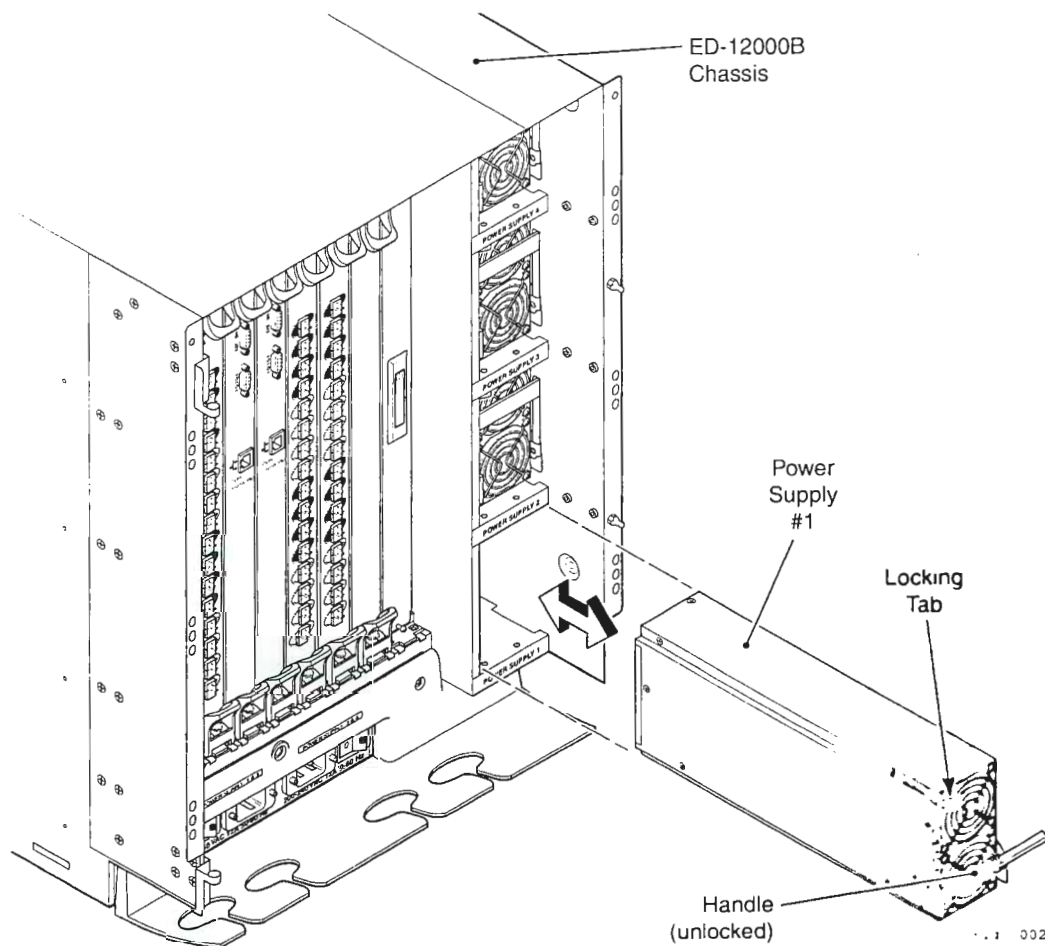

Figure 4-5 Power Supply Removal and Replacement
The left power connector provides power to the power supplies in slots #1 and #3, and the right power connector provides power to the power supplies in slots #2 and #4. The power connectors and the power supply slots are color-coded to identify which power connectors provide power to which power supply slots. See Figure 4-5 on page 4-35 for power supply location.
3. Remove the current power supply or filler panel from the chassis. See Figure 4-5 on page 4-35.